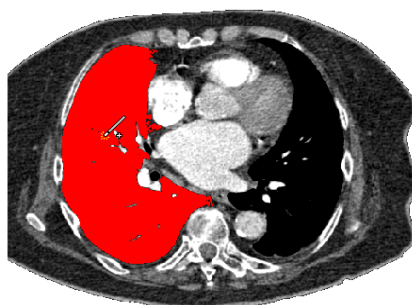

Figure 265 – Defining an area using the Magic wand drawing tool
7. Press and hold down the left mouse button to define the starting point and from there, drag the cursor to demarcate the area what you want to define. The further you drag the cursor away from the starting point, the wider the color range will be (see Figure 265).